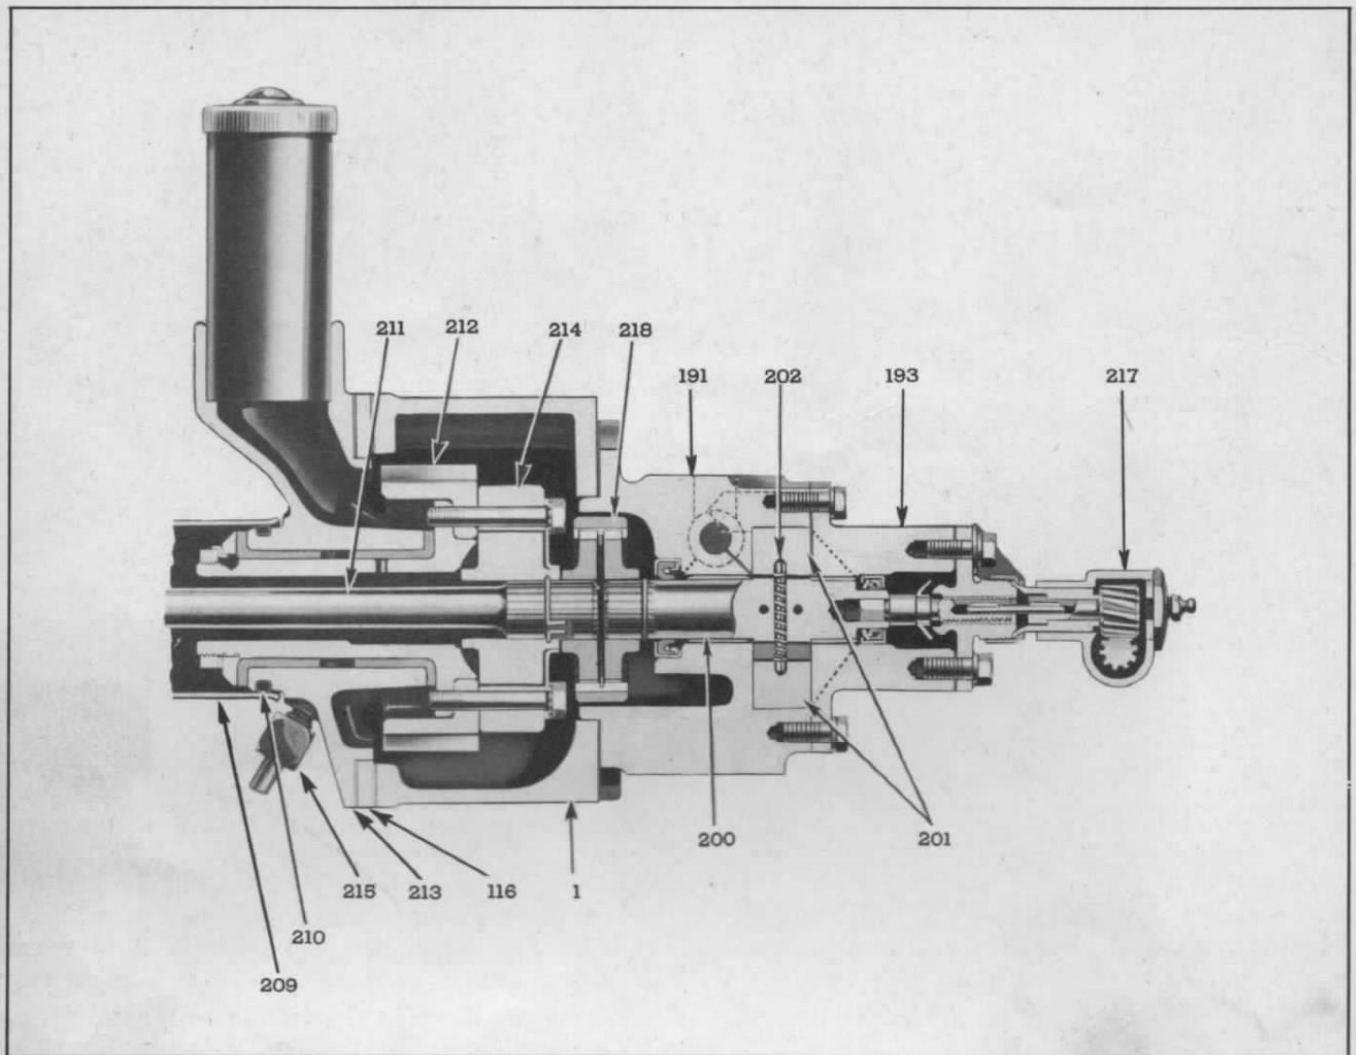

Fig. 10—Hydraulic Marine Reverse Gear Oil Pump Mounting and Drive
Oil is supplied to the dump valve from a positive pressure pump, driven off the blower shaft, (see Fig. 10), through the control valve (132), an oil passage in the reverse gear housing (57), through a duct at the center of the drive shaft (65) and through a passage in the flywheel. When the pump pressure is
Oil Pump—Each engine equipped with an hydraulic marine reverse gear is provided with a positive displacement, vane-type oil pump mounted to the fly-wheel housing and driven from the blower drive shaft by a flexible coupling, as shown in Fig. 10.